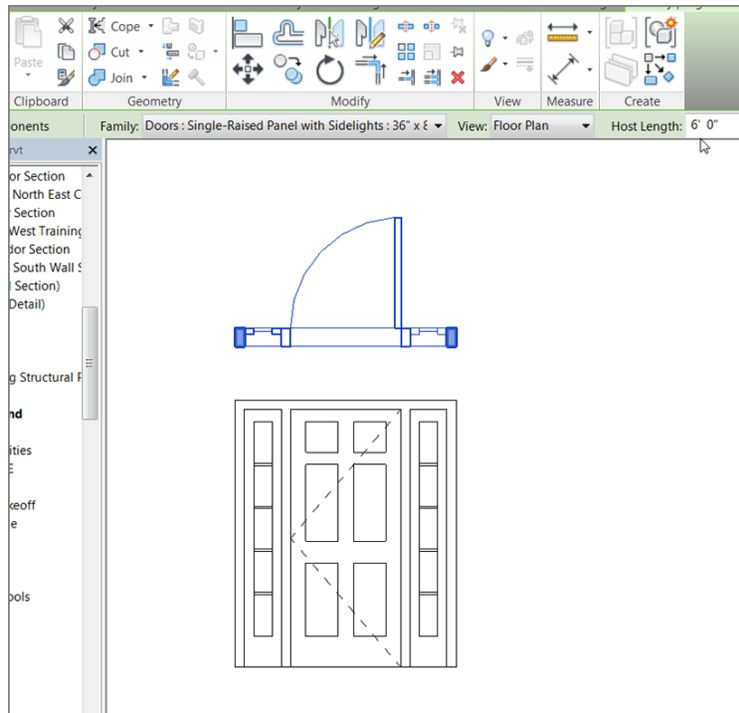

FIGURE 11.42: Placing two instances of the same door for the legend
7. Change the view to Floor Plan. Place another instance of the door just above the elevation, as shown in Figure 11.42. Revit provides a snap line on the left side for alignment.
8. In the Options bar, be sure Host Length is set to 6'-0" (1800mm) (see Figure 11.42).